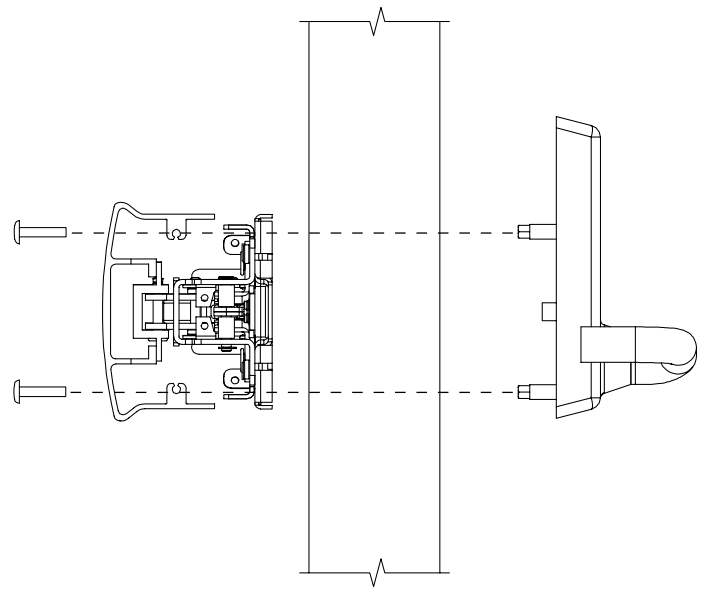

Figure 5-2
- 5.3. If outside trim is used, bolt through to trim (see Figure 5-2 and trim installation instructions).